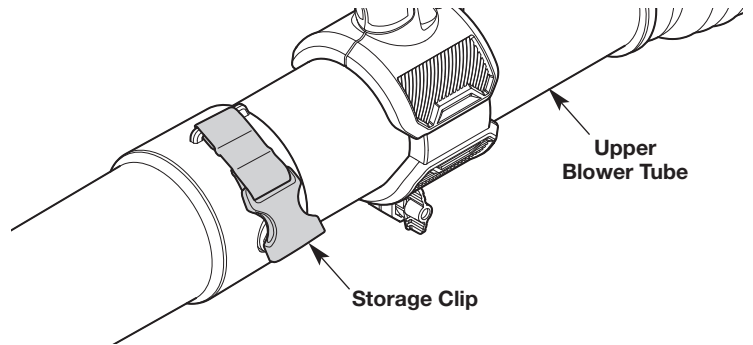

Fig. 18
2. Grab the storage clip on the upper blower tube with one hand (Fig. 18).